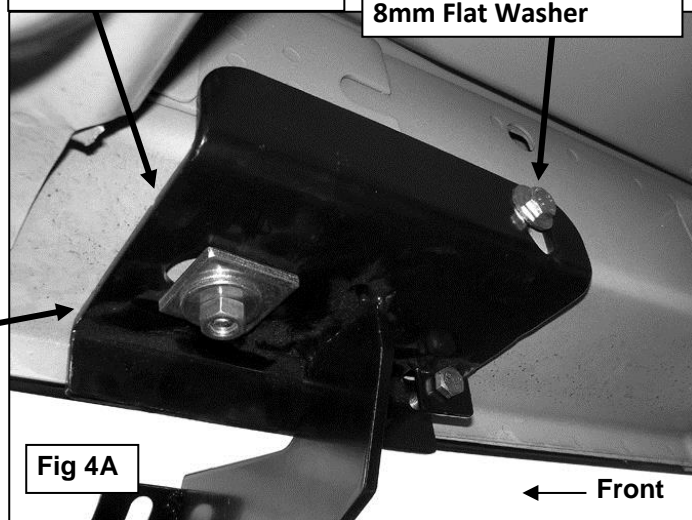

Fig 4A
- b. **On 2010-11 Vehicles:** Use (1) 12mm Square Washer, (1) 10mm Flat Washer, (1) 10mm Lock Washer and (1) 10mm Hex Nut to secure the Bracket to the 10mm Bolt Plate, (**Figure 4A**). Do not tighten hardware at this time.